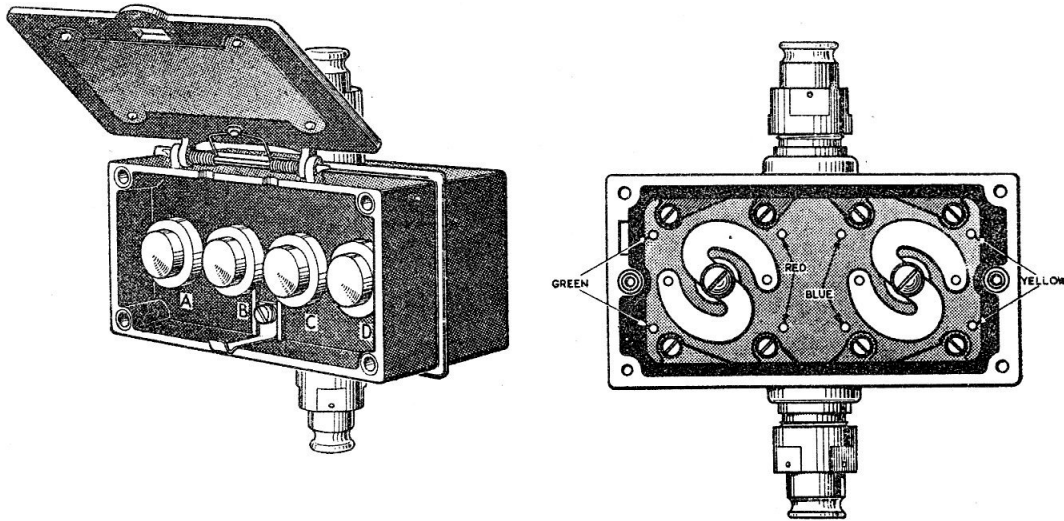

Fig. 2. Ignition test switch
4. The ignition test switch (*fig. 2*) is connected in series with the ignition switchbox, Type D, during ground testing, and is used for switching off the magnetos individually. The pairs of terminals are marked with green, red, blue and yellow dots to correspond with the markings on the ignition switchbox, and a common cable entry is fitted at each end. Instructions for use are given inside the lid of the test switch.